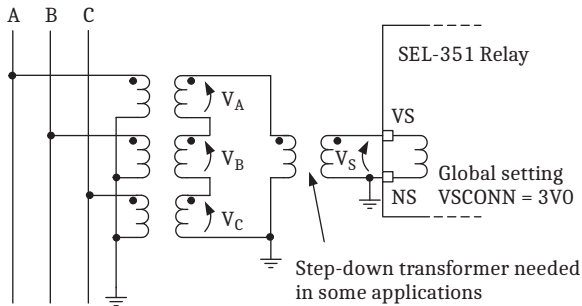

Figure 5 Broken-Delta Connection to SEL-351 Voltage Input VS/NS
Alternatively, voltage input VS/NS can be connected to a broken-delta voltage source, as shown in *Figure 5*. This broken-delta connection provides a zero-sequence voltage source (3V0)—useful when zero-sequence voltage is not available via the three-phase voltage inputs VA, VB, VC, and N, (e.g., when open-delta connected voltage is applied to the three-phase voltage inputs—see *Figure 4*). Zero-sequence voltage is used in zero-sequence voltage-polarized ground directional elements and in the directional protection for Petersen Coil grounded systems.
- Broken-delta zero-sequence voltage (see *Figure 5*)